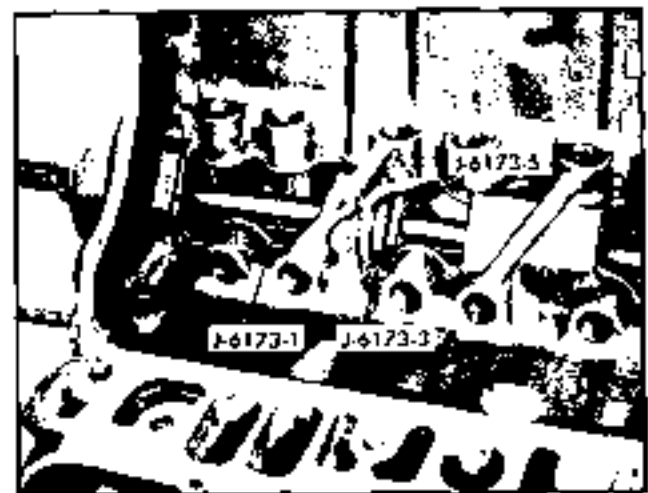

Fig. 6-99 Removing Camshaft Bearing
5. Slip key J 6173-5 into notches in shaft behind bearing to be removed (Fig. 6-99).